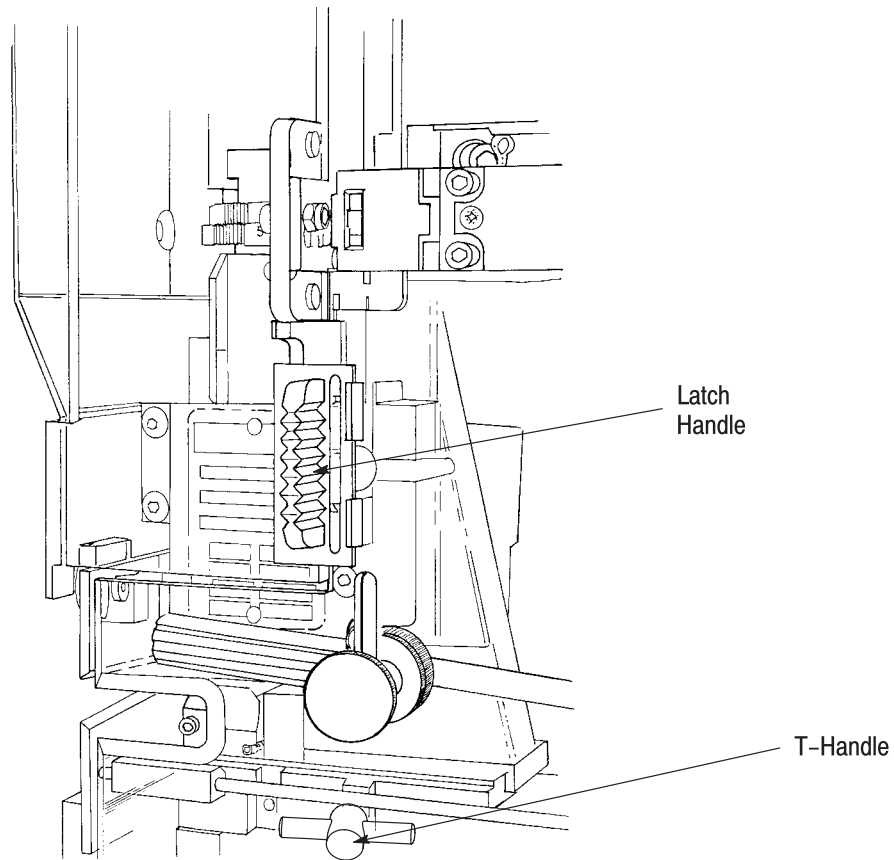

Figure 13
14. Close the guards by positioning the right guard next to the applicator. Lift the latch handle on the left guard and close, making sure that the interlock tabs on the left guard mate with the interlock switch on the right guard. Lower the latch handle to secure the guard doors. See Figure 13.